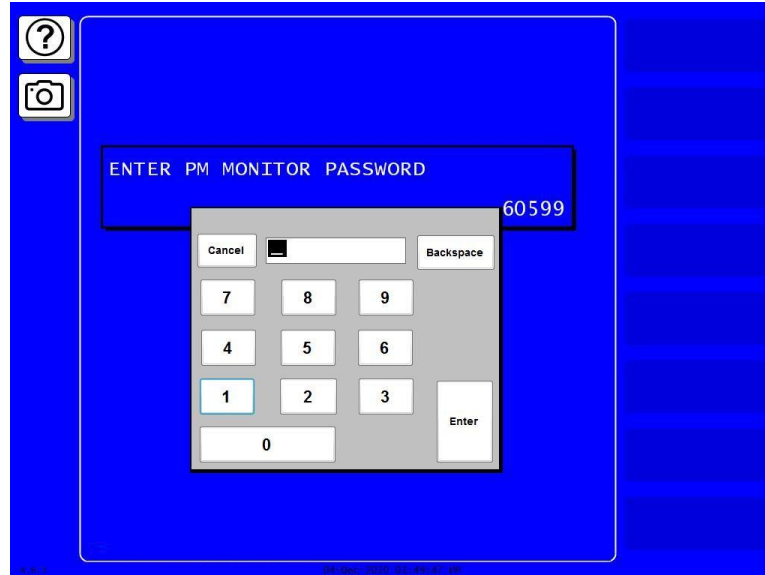

Figure A- 2. PM Password Screen
- In the numeric entry pad that opens, Figure A- 2, key in a new password up to 4 digits long.